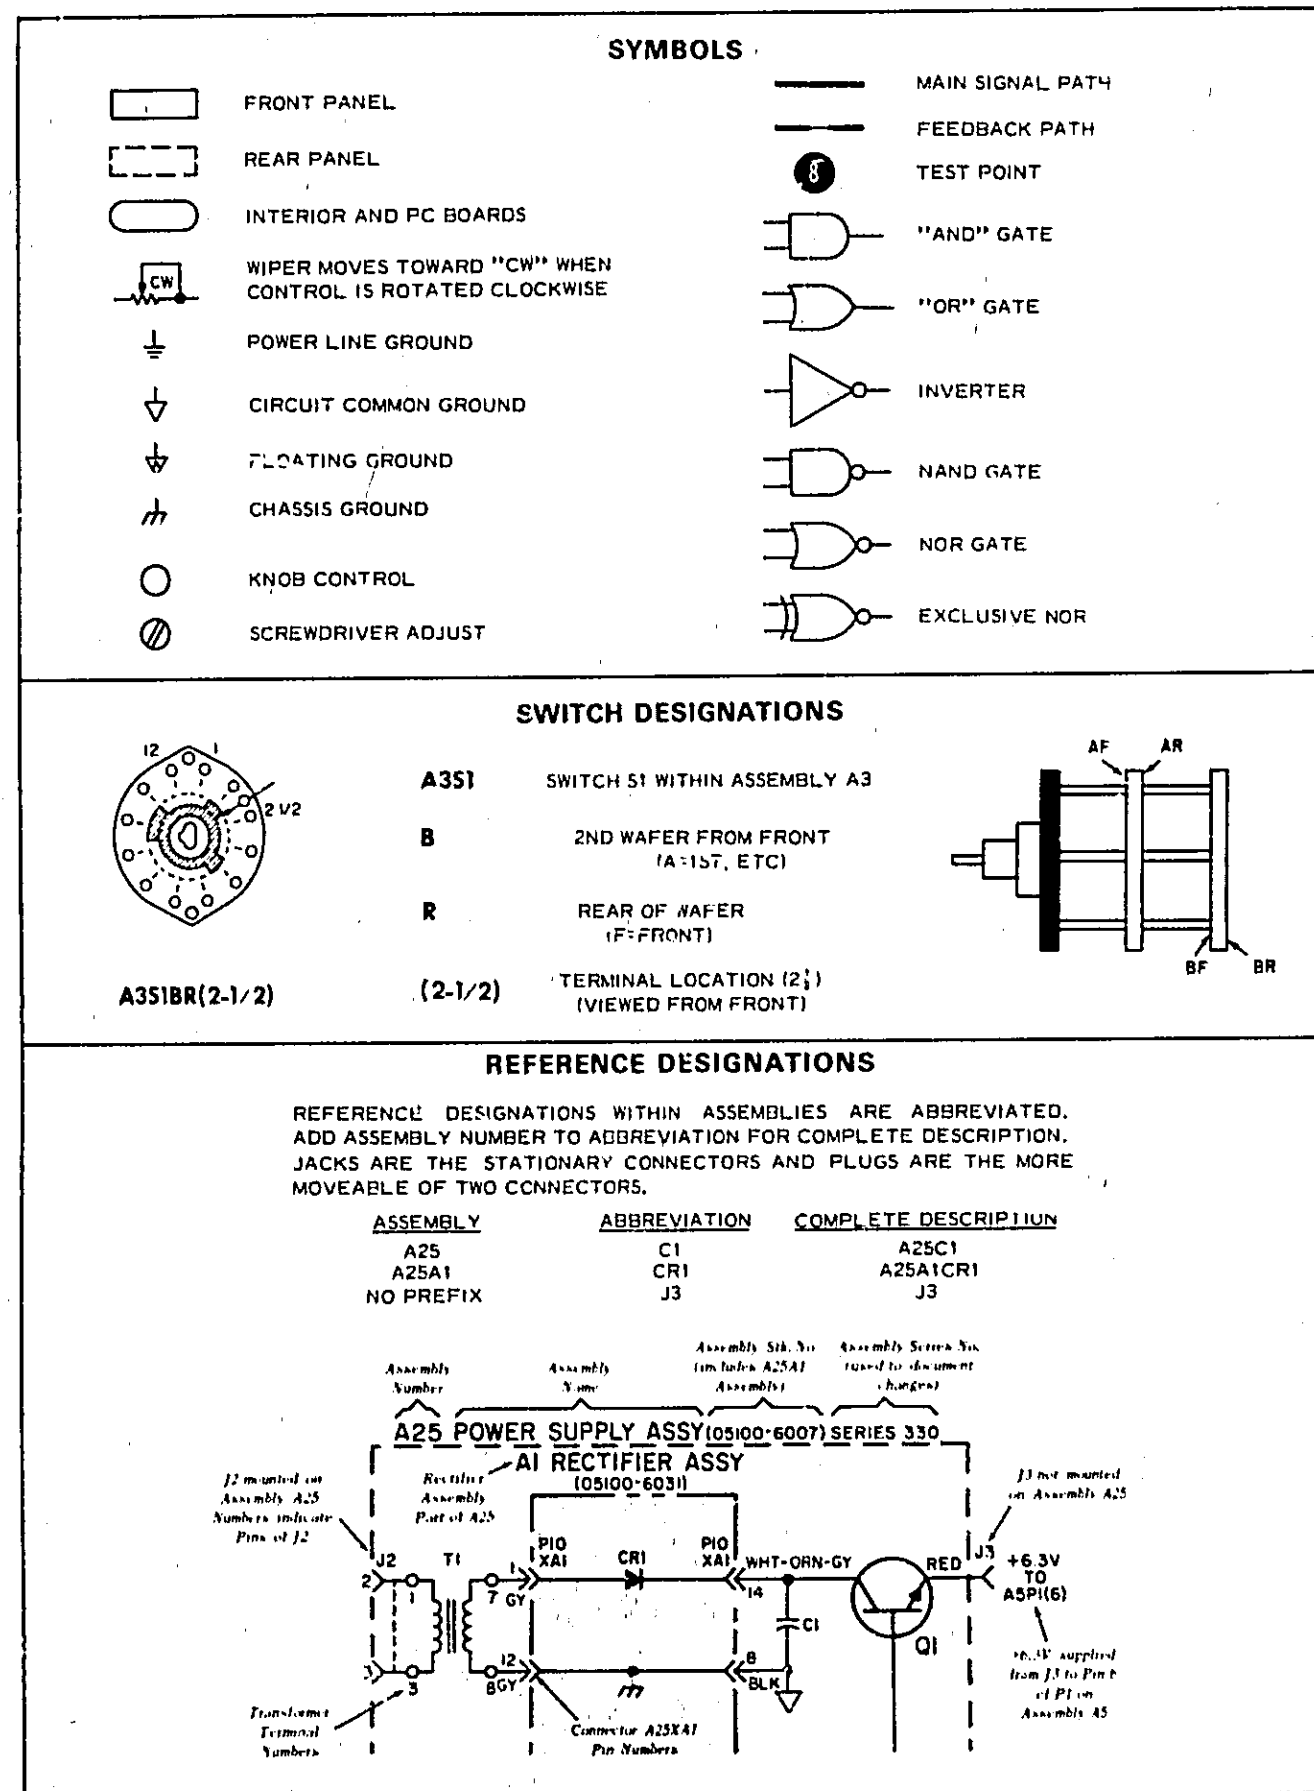

Figure 7-1. General Notes for Schematic Diagrams
a. General Notes for Schematic Diagrams (Figure 7-1).